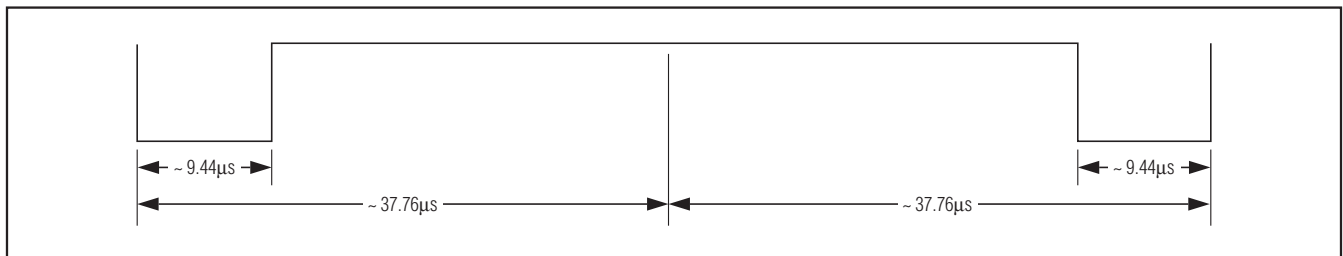
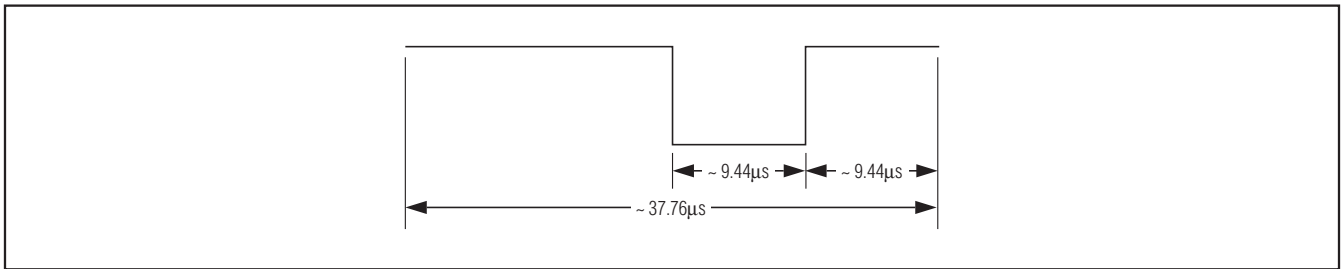

Figure 9. Downlink SOF for "1 Out of 256" Coding (Carrier Not Shown)
Figure 11. Downlink EOF (Identical for Both Coding Schemes, Carrier Not Shown)
75.52μs conveys the value of the 2 bits. A byte is transmitted as a concatenation of four 2-bit transmissions, with the least significant 2 bits of the byte being transmitted first. The transmission of the SOF pattern takes the same time as transmitting 2 bits in Scheme B. The SOF pattern has two modulation notches, making it distinct from any 2-bit pattern. The position of the second notch tells whether the frame uses the “1 out of 256” or “1 out of 4” coding scheme (Figures 9 and 10, respectively). The transmission of the EOF pattern takes 37.76μs; the EOF is the same for both coding schemes and has one modulation notch (Figure 11).